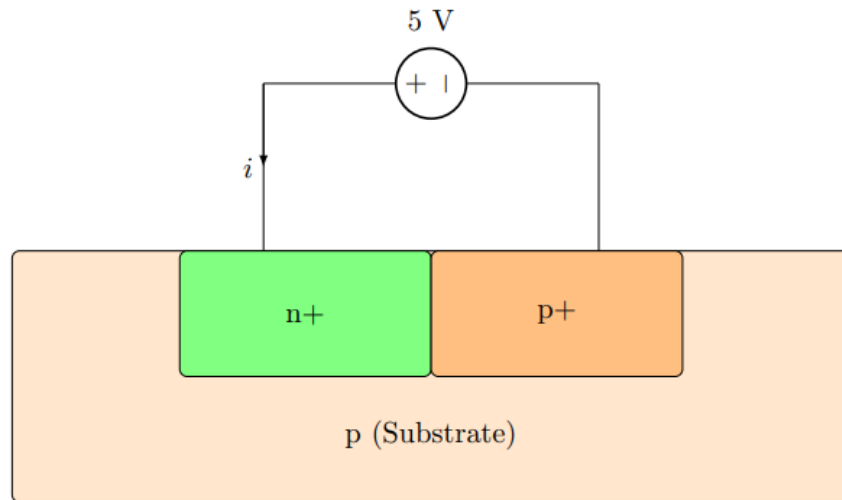

Figure 1: A pn-junction in a p-type substrate is reverse biased with a 5 V voltage source.
The pn-junction in Figure 1 was fabricated using a $100\mu\text{m} \times 100\mu\text{m}$ mask. The pn-junction is backward biased with a 5 V voltage source, as is shown in the Figure 1. Due to thermal generation, 3.2×10^7 new electron-hole pairs are generated each second in the depletion region of the diode.
a) Describe the circuit of Figure 1 in AIM-Spice using the diode model ‘DBSBdiode.mod’ found on blackboard. The model files found on blackboard models a $100\mu m \times 100\mu m$ diode